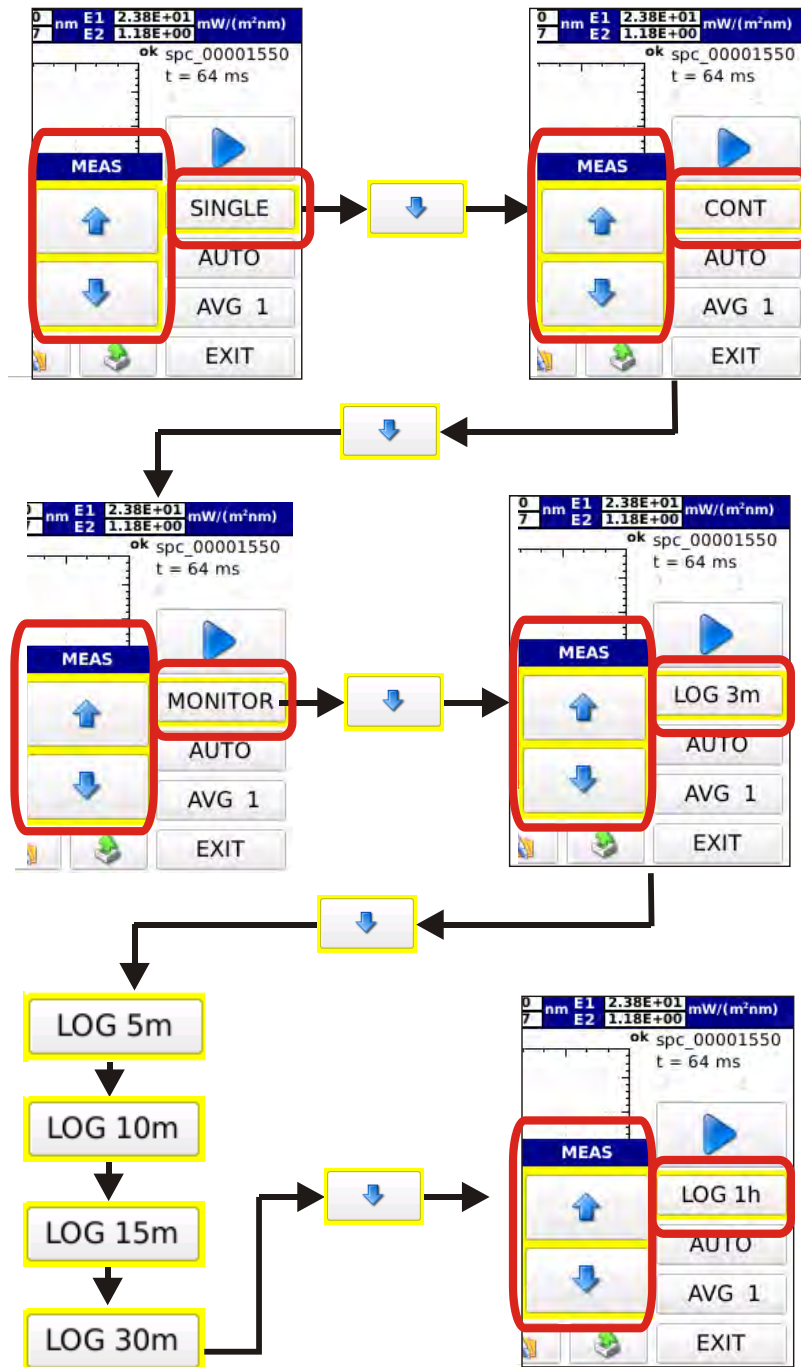

Figure 3.5: Select the operating mode using the arrow keys. Selection keys disappear by pressing any other key.
3.1.1. Select the operating mode of the instrument among the available four modes (SINGLE, CONTINUE, MONITOR, LOGGING). By pressing the SINGLE button two arrow sliders are displayed; by pressing the  button the operating mode changes as shown on figure 3.5.